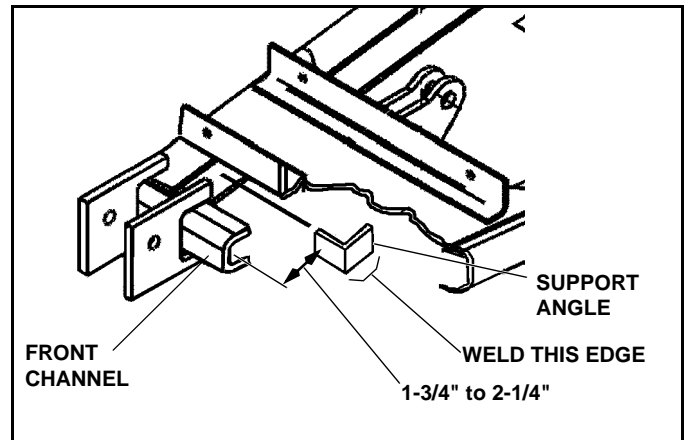

Figure 2-1
1. Place one (1) Support Angle (#6) in each Main Frame side channel located 1-3/4" to 2-1/4" away from the front channel, as shown in Figure 2-1.
2. Weld the inner leg of each Support Angle to the lower leg of each side channel as shown in Figure 2-1.